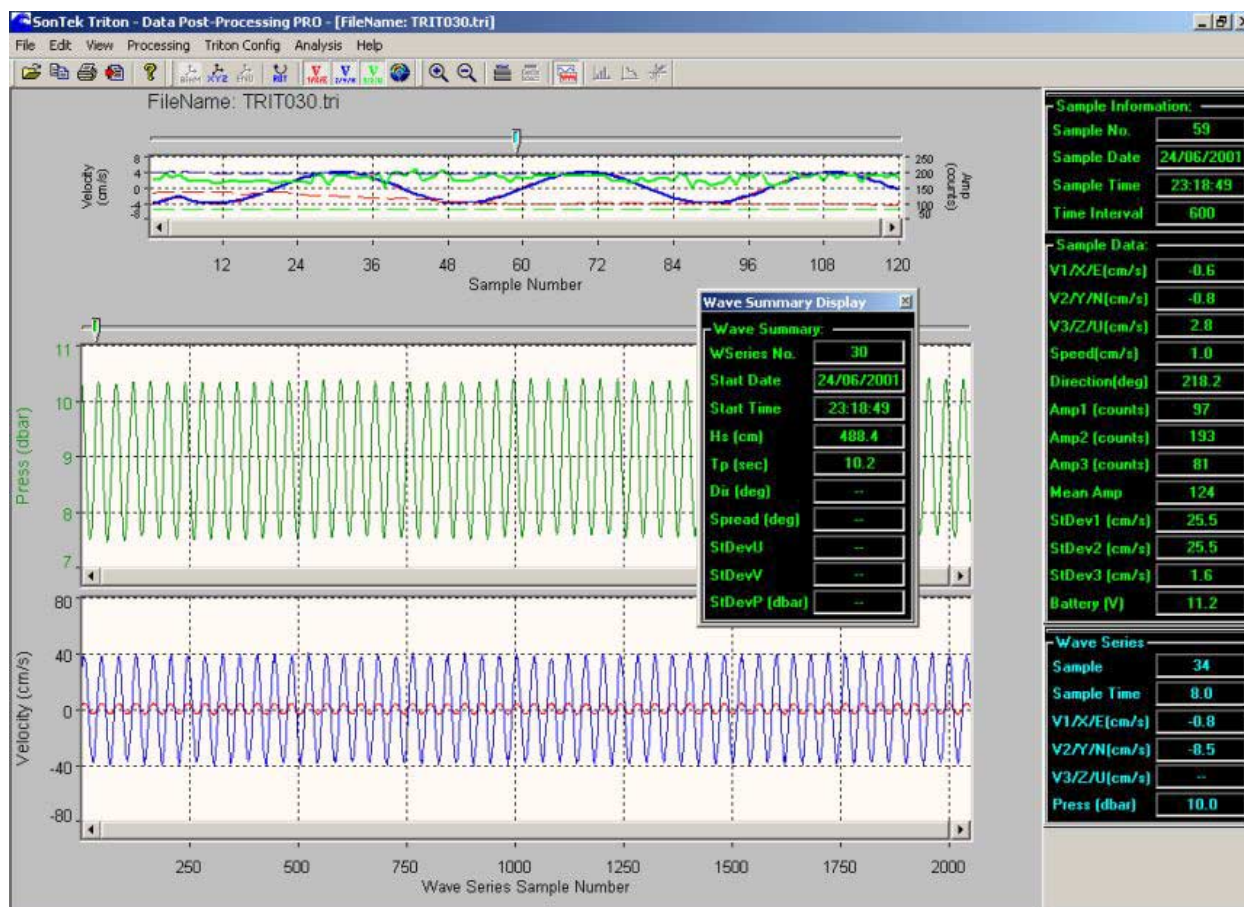

Figure 11 – ViewTritonPro Processing Module
- The software will then plot and display the data similar to that shown in Figure 11.
Figure 11 shows the *Processing* screen with key features labeled.